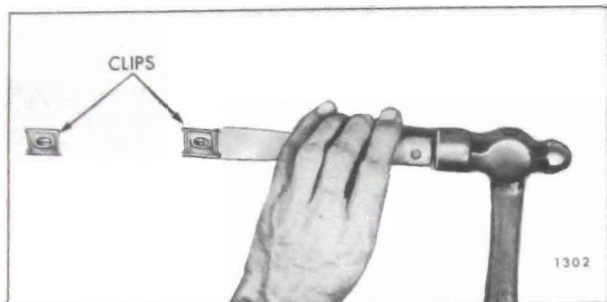

Fig. 17-3—Removal of Bath-Tub Type Molding Clip
1. Insert sharp edge of flat-bladed tool, such as a putty knife, under edge of clip and hammer tool until base of clip is cut approximately half-way through (Fig. 17-3) then disengage clip from hole.